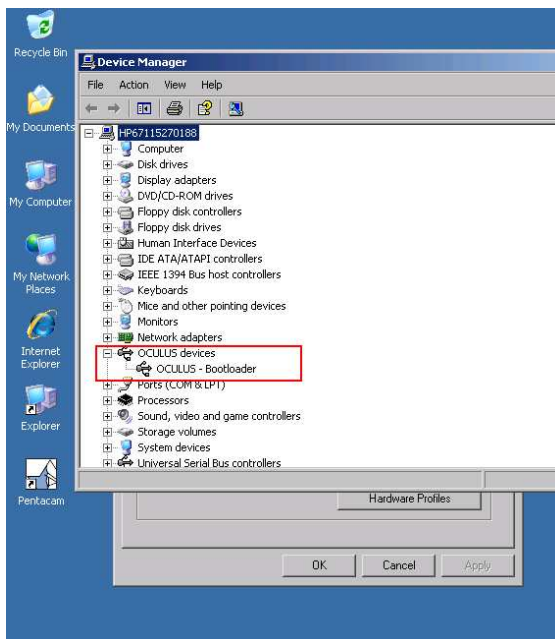
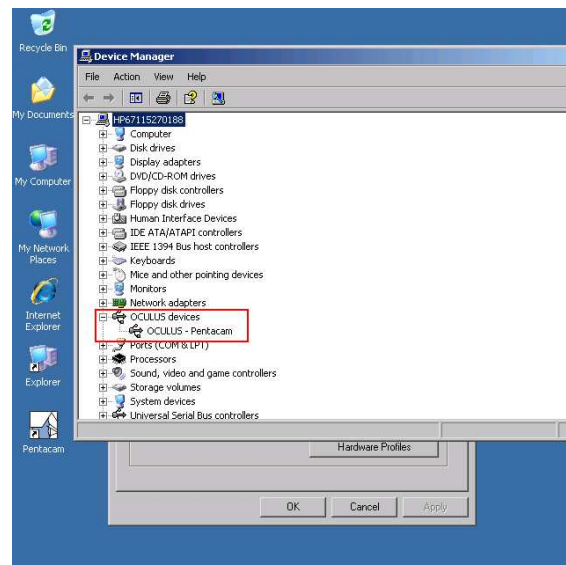

Figure 16, Oculus bootloader
Figure 17, Oculus Pentacam
8. Check the device manager, if under USB-controller the Oculus Bootloader or the Oculus Pentacam was found. Please refer to **Figure 16**, **Figure 17**.